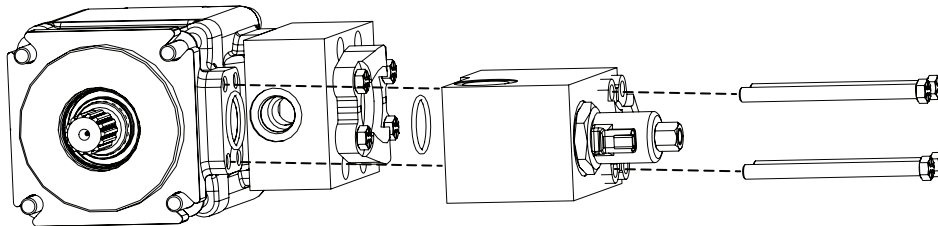

Figure 2
7. Remove and discard the (4) bolts securing the EOC on the pressure side of the pump (Figure 2).
8. Remove and discard the EOC (Figure 2).